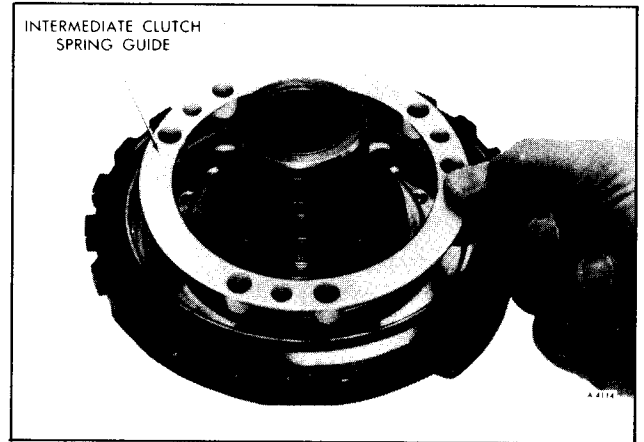

Figure 67—Installing Nylon Spring Guide
3. Install plastic spring guide. Figure 67.